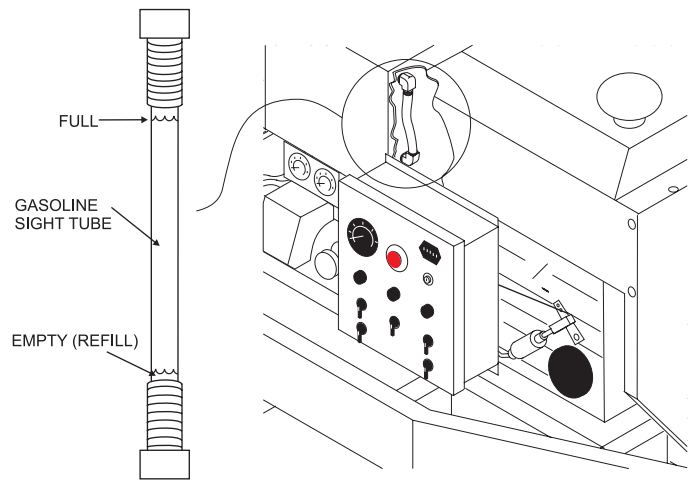

Figure 10. Fuel Sight Tube
5. Read the fuel sight tube (Figure 10) on top of the fuel tank to determine if the pump's engine fuel is low .
- Turn the Control Off switch (Figure 10) to the "OFF" position.